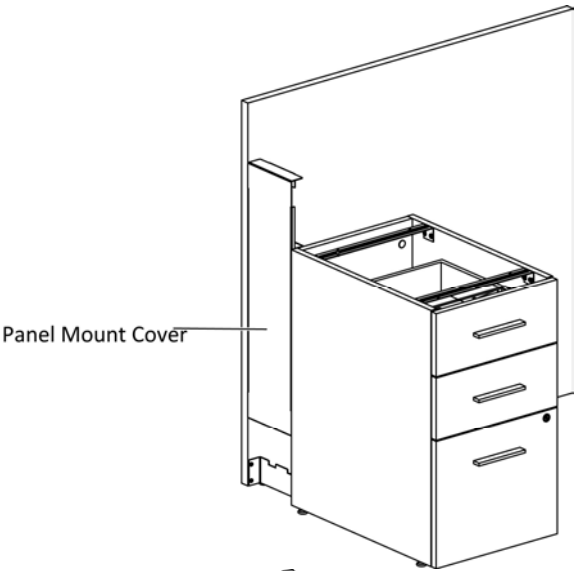

Figure 3
- 8. Place the panel mount cover between gallery panel and pedestal, (Figure 3).